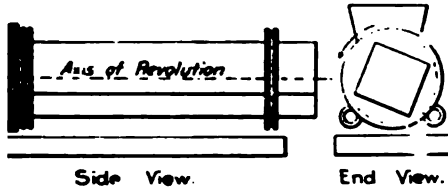

Fig. 10—Elongated Box Concrete Mixer.
(10) A long inclined box, square in section, revolving on its axis, as in Fig. 10. The materials are thrown in at the upper end, and the concrete is discharged at the lower end, being practically invisible during the process.